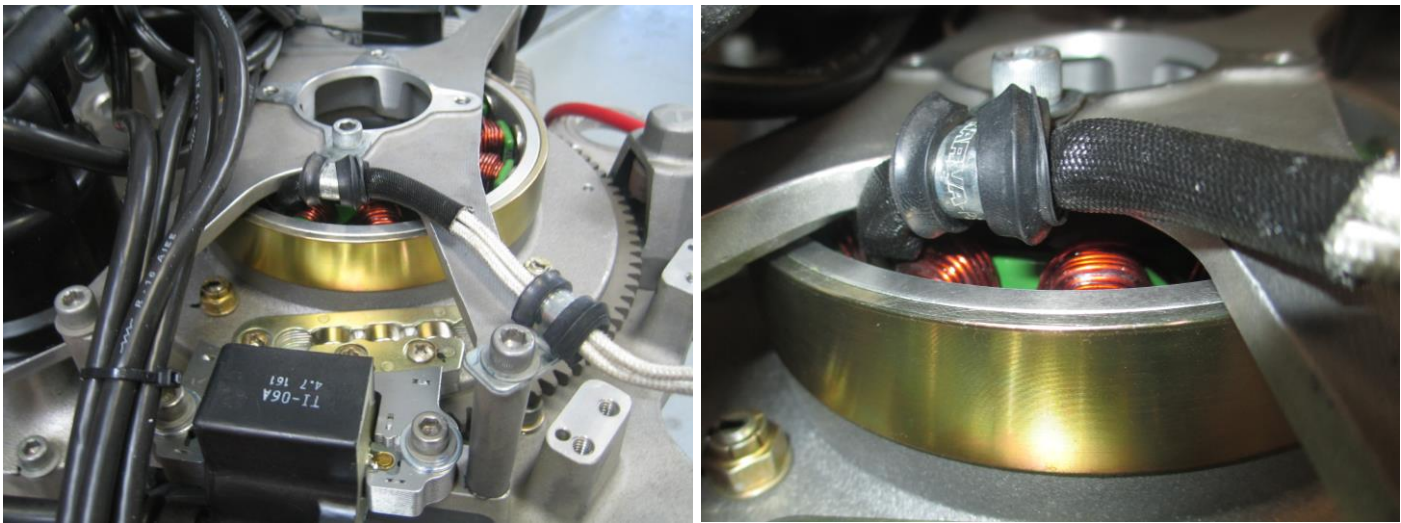

Figure 149 – Stator cable orientation
- Check the alternator stator is oriented so the electrical leads are directed out the right side of the mount and bend up to the top of the engine as shown in Figure 149. Attach clamps to hold cable to alternator mount.